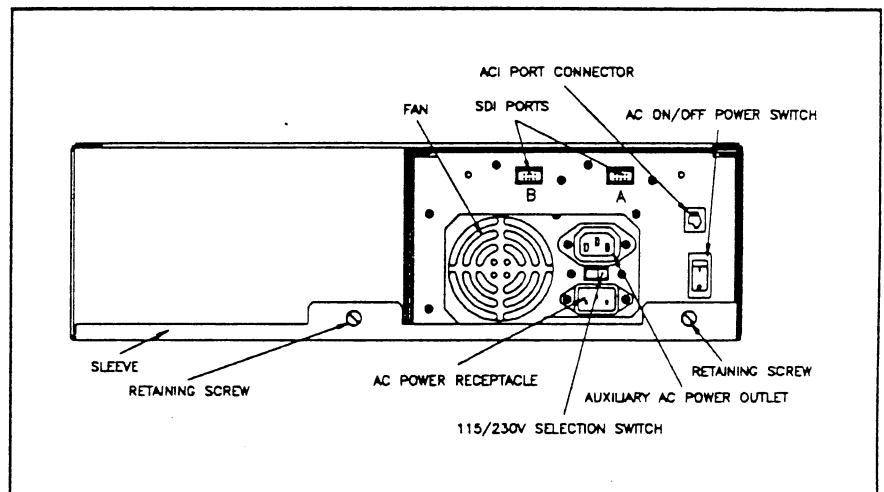
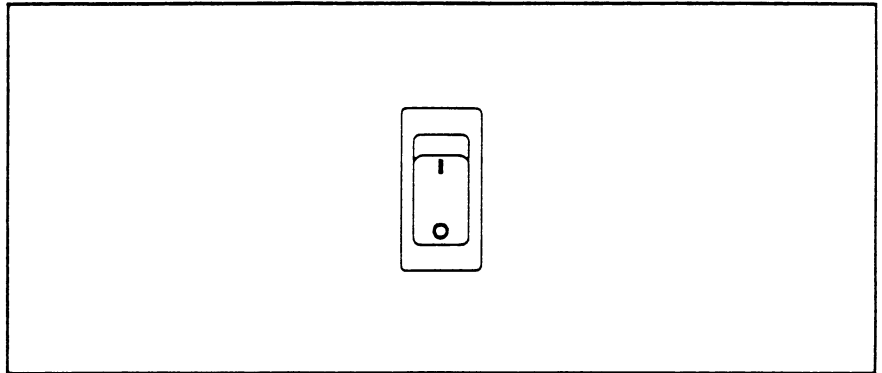

Figure 2-1. Rear Panel (Single Tray Shown)
Figure 2-7. AC ON/OFF Power Switch
Figure 2-1 gives the location of each switch and connector discussed in this section.
11. Set the 115/230V Selection switch located on the rear panel as shown in Figure 2-1. This switch must be set to the proper input voltage before turning on power to the unit.
12. Plug the ac power cords supplied with the cabinet ac power strip into the ac power receptacle (refer to Figure 2-1 for location) on the rear of each tray.
13. Turn the AC ON/OFF Power switch to the ON position on each tray (located on rear panel as shown in Figure 2-1) in the cabinet. Press the side of the Rocker switch labeled "1" as shown in Figure 2-7.